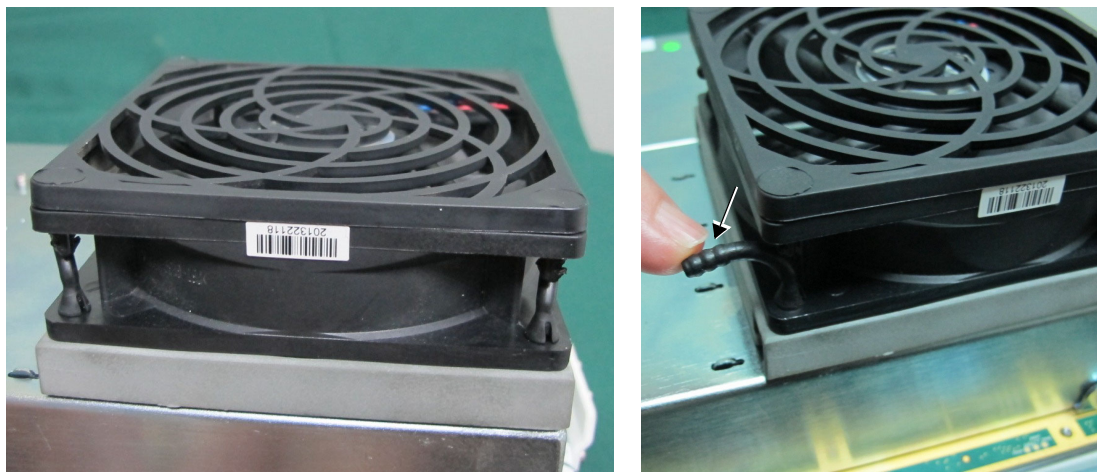
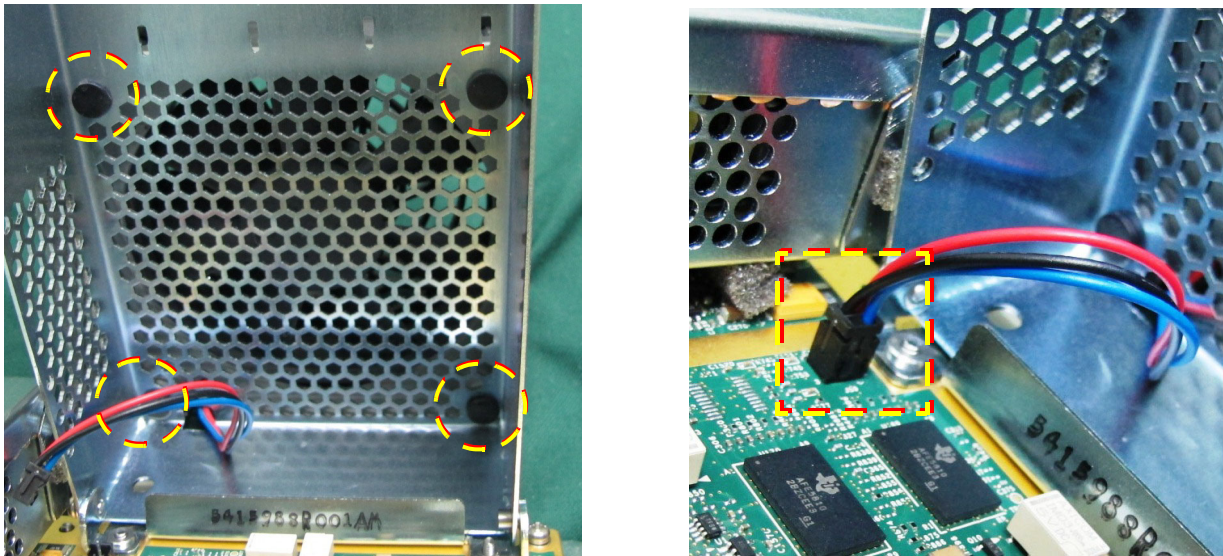

Figure 8-189 Fan Secured to TRX32 Box
Figure 8-190 TRX32 Cover and Fan Cable
- 5) Cut each of the four rubber grommets and remove them to release the fan (see Figure 8-189).
- 1) Position the new fan on the TRX32 Box cover then thread the fan cable through the top of the cover and lead it through as shown in Figure 8-190 (right).
- 2) Using the rubber grommets provided, thread each rubber grommet from the inside of the TRX32 Box cover through to the new fan - Figure 8-190 (left) - and pull it through from side of the fan until each grommet is firmly in position securing the fan - see Figure 8-189, above.
- 3.) Connect the fan cable to the CFE board - see Figure 8-190, above.